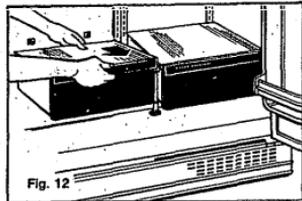

Fig. 12
2. Grip crisper and crisper cover farthest from door simultaneously with both hands, and pull straight out (Fig. 12).